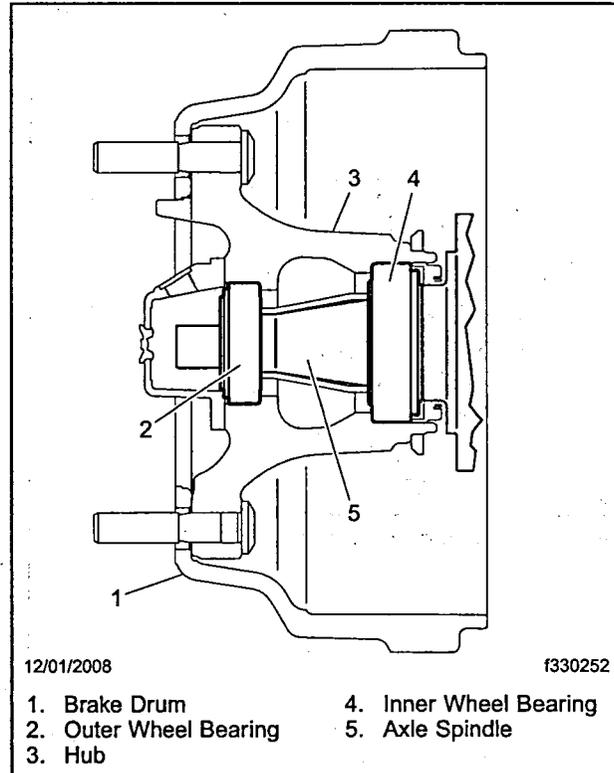
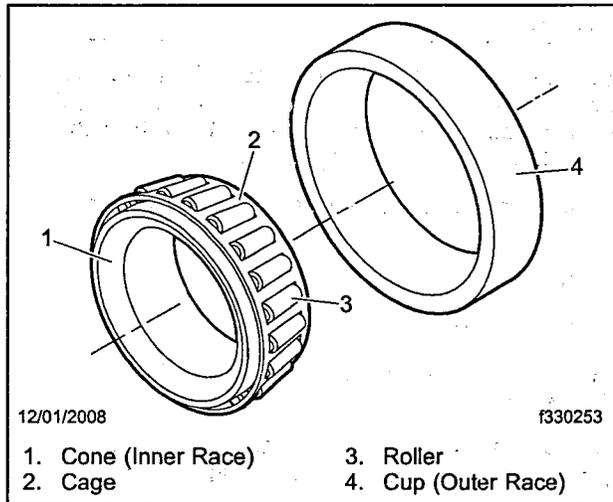

Fig. 8, Bearings Between the Hub and Axle Spindle
Fig. 9, Wheel Bearing
5. Seat the bearings. There are two roller bearings between the hub and the axle spindle, each of which consists of four basic parts: the cone (inner race), cage, rollers, and cup (outer race). See Fig. 8 and Fig. 9. To achieve the correct end play, the rollers must be rolled into position against the large rib of the cone as follows.